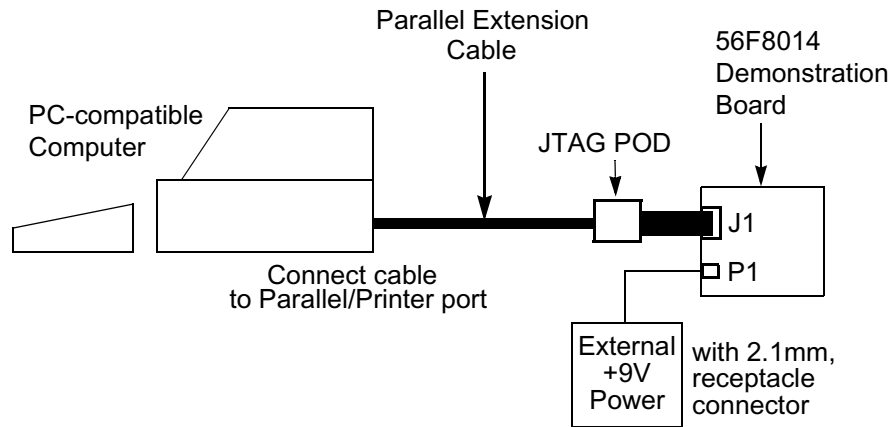

Figure 1-2. Connecting the 56F8014 Demonstration Board Cables
An interconnection diagram is shown in Figure 1-2 for connecting the PC and the external +9.0V DC power supply to the 56F8014 Demonstration Board.
2. Connect the other end of the parallel extension cable to the JTAG interface POD. Connect the ribbon cable from the JTAG interface POD to J1, shown in Figure 1-2, on the 56F8014 Demonstration Board. This provides the connection which allows the host computer to control the board.
4. Connect the 2.1mm output power plug from the external power supply into P1, shown in Figure 1-2, on the 56F8014 Demonstration Board.